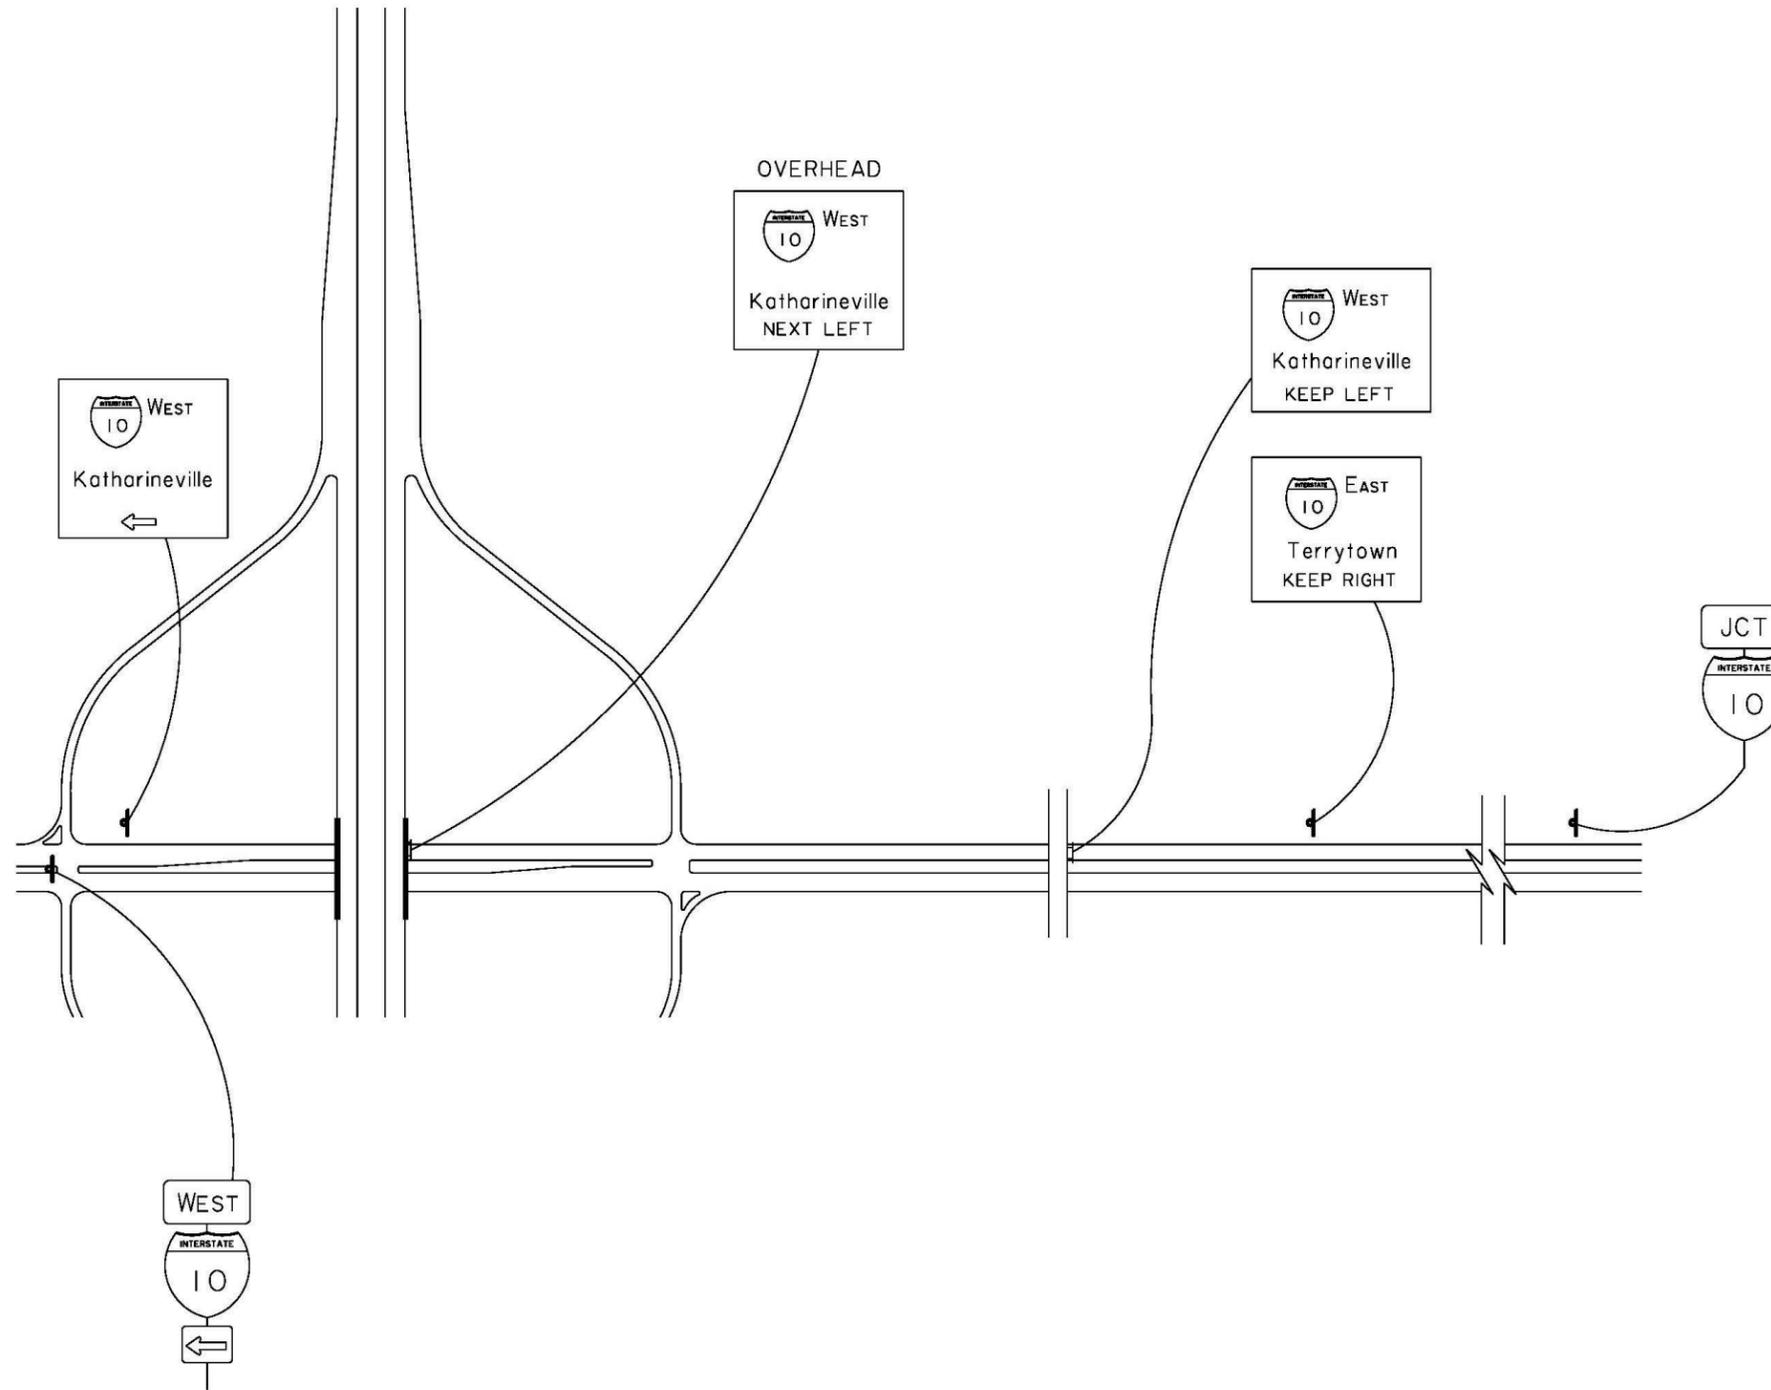

Figure 3-2: Diamond Interchange with Fascia Mounted Signs
- Diamond Interchange (See Figure 3-2: Diamond Interchange with Fascia Mounted Signs) – the fascia mounted sign will indicate a left turn movement just past the bridge structure for the interstate on ramp